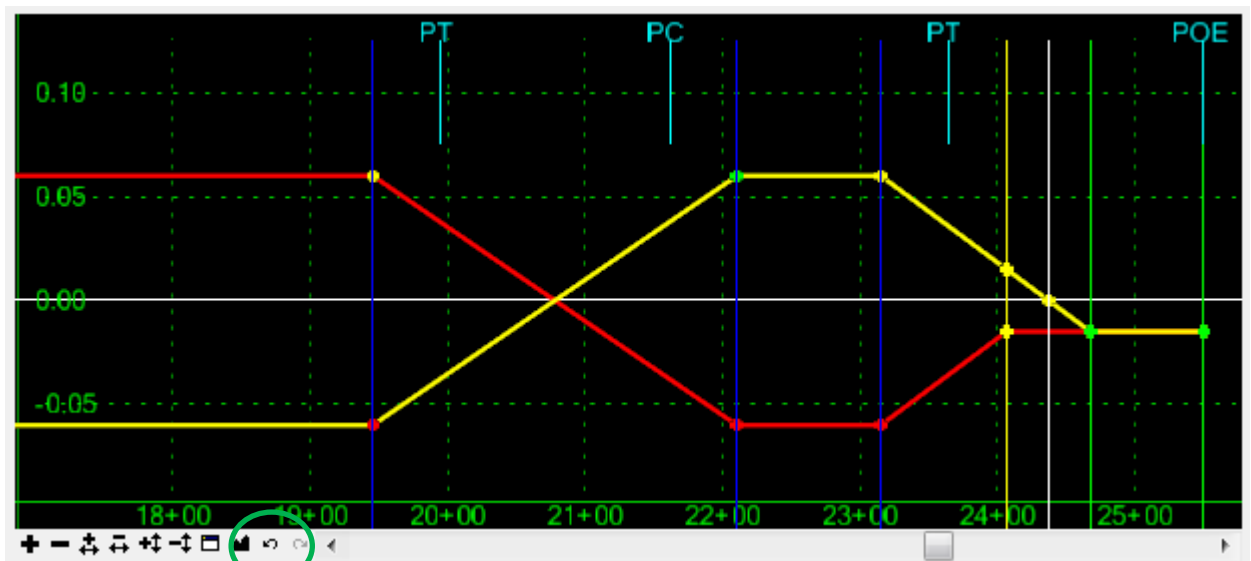

Figure 8-3 View of Superelevation with no overlap
- C. To delete multiple points, use the mouse cursor. Click and hold down and drag the mouse to create a fence around all points in the transition overlap area. When the mouse button is released, the points inside the window will be deleted. The image in **Figure 8-3** represents super control lines with no overlap.